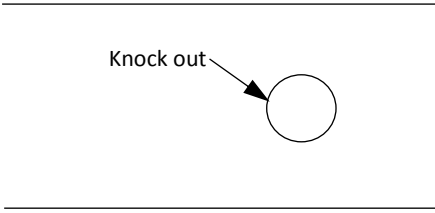

Fig 7
1. Ducting will ideally be connected to the front or back of the Mozart. Remove the knock out panel with a hammer and fix the 150mm diameter plastic flange with the 4 screws included. Then connect the ducting. (Fig 7 & 8).